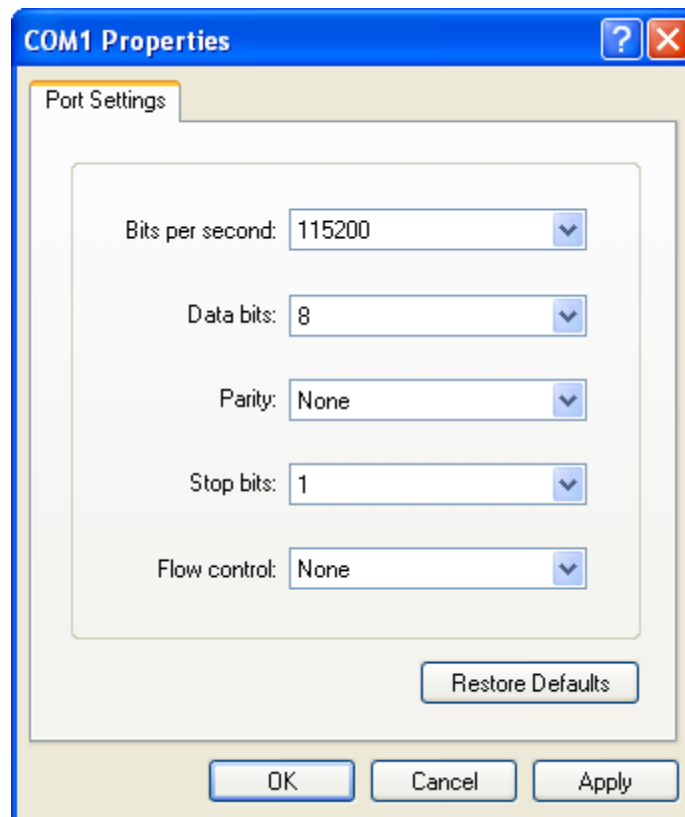

Figure 1.2
- 1.5. Set the COM port properties using the settings shown in Figure 1.2 and press 'OK'.